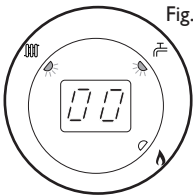

Fig. 90
6. The display will show '00', indicating maximum rate, then revert to 'P' alternating with the current boiler temperature (Figs. 90, 91 & 92).